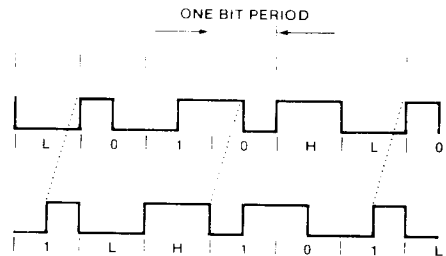

Figure 3. STARLAN Collision Presence Signal
The 82C551 detects collision on the receive data. When two or more than two receive inputs are active at the same time, the 82C551 generates a Collision Pattern (CP) signal. CP is also generated when the incoming data on the receive input has jitter on the signal exceeding the specifications of $\pm 90\text{ns}$. The CP is an IEEE 802.3 STARLAN specific collision pattern as illustrated in Figure 3.